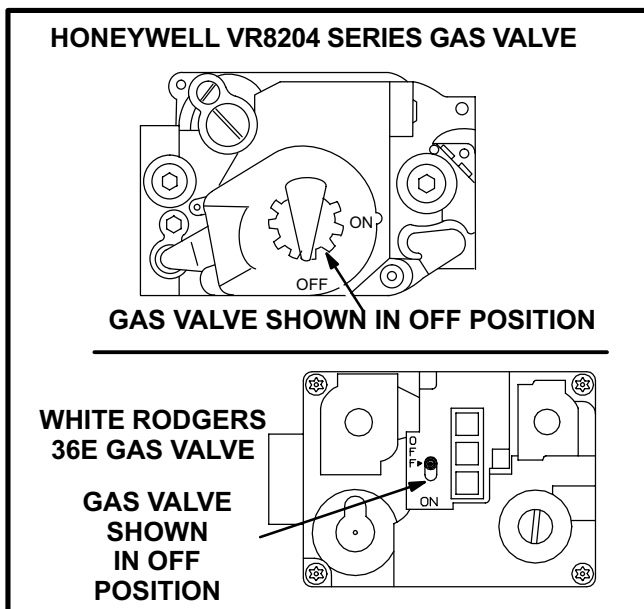

FIGURE 3
### Gas Valve Operation (Figure 3)
- 6- On Honeywell VR8204 gas valves, turn knob on gas valve clockwise to **OFF**. For White Rodgers 36E gas valves, move switch to **OFF**. Do not force the switch. See figure 3.